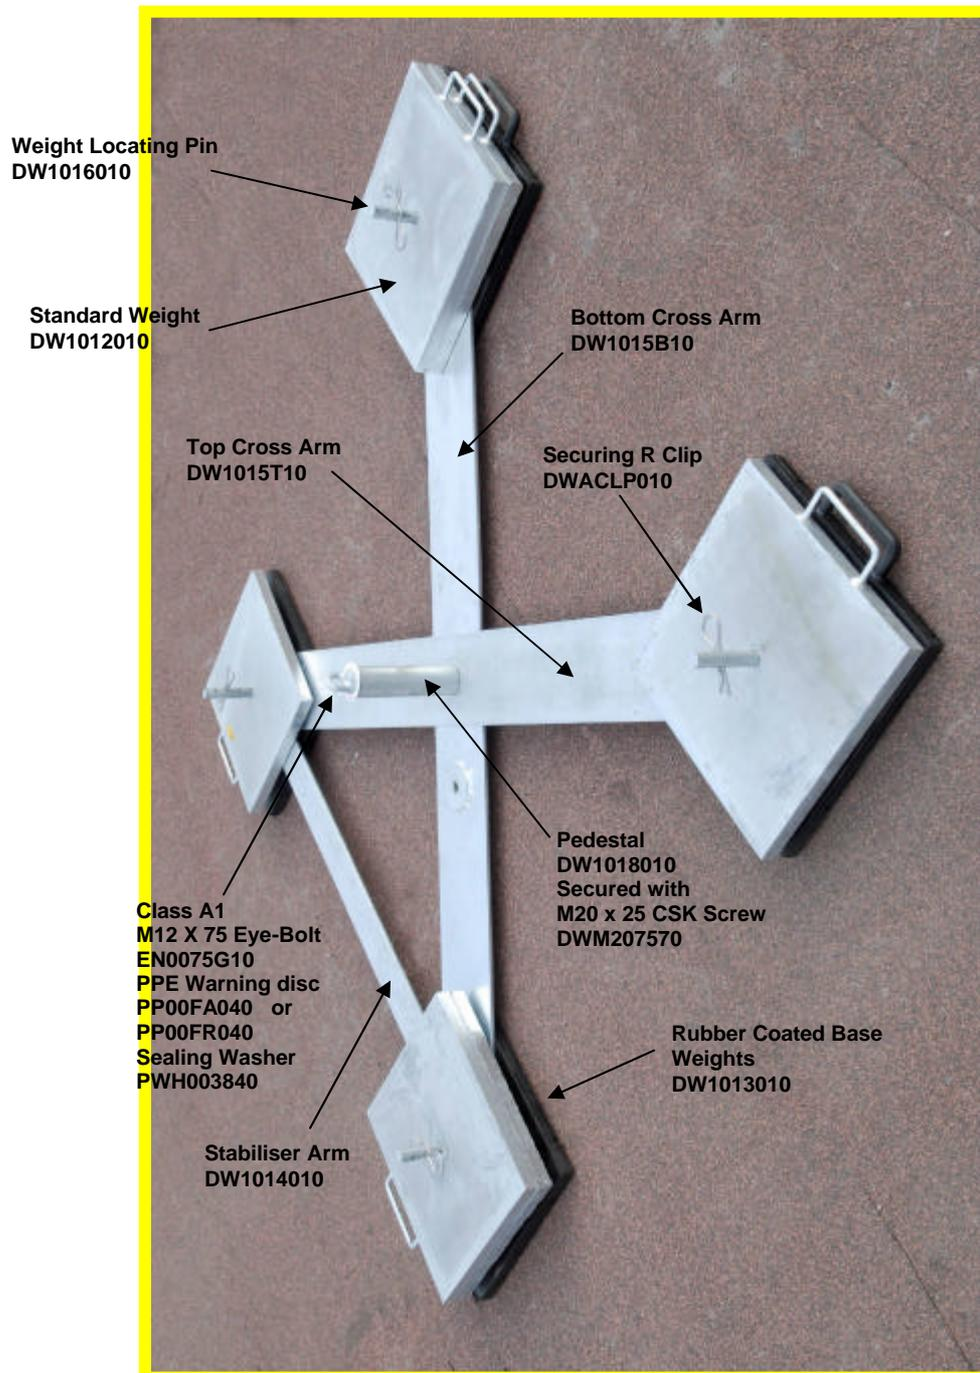

Figure 1
If all the parts shown in Figure 1 are not present or if parts are damaged, they must be replaced by original parts. Contact your supplier or the manufacturer for advice.
- Ensure that the correct number of weights have been used for the type of roof surface (see page 2-13) and that they are correctly distributed across the six securing pins (Fig.1 Page 2-4)